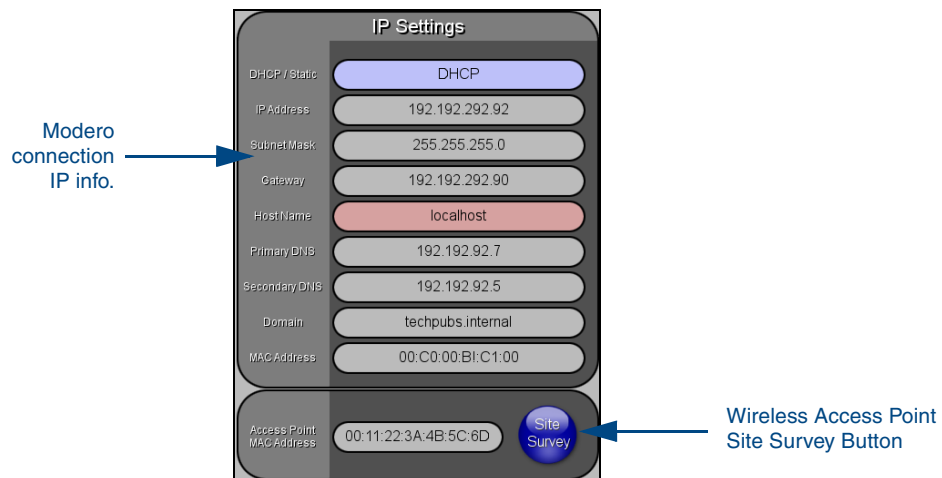

FIG. 26 Wireless Settings page (IP Settings section)
1. Select **Wireless Settings**. Wireless communication is set within the IP Settings section of this page (FIG. 26).
1. Press the **Wireless Settings** button (located on the lower-left) to open the *Wireless Settings* page. Wireless communication is set within the *IP Settings* section of this page (FIG. 26).